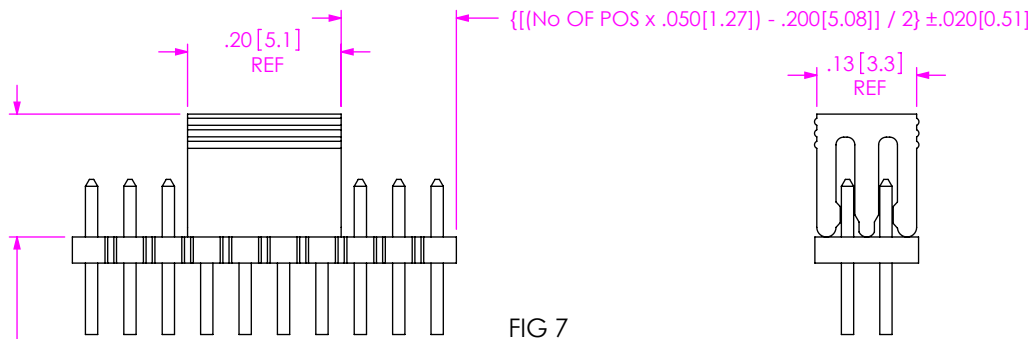

FIG 7
- P: PICK AND PLACE PAD (USE PPP-25) (AVAILABLE ON POSITIONS 04 THRU 50) (SEE FIG 5, SHT 2 & FIG 7, SHT 3) (USE PPP-25-NT FOR TAPE & REEL)